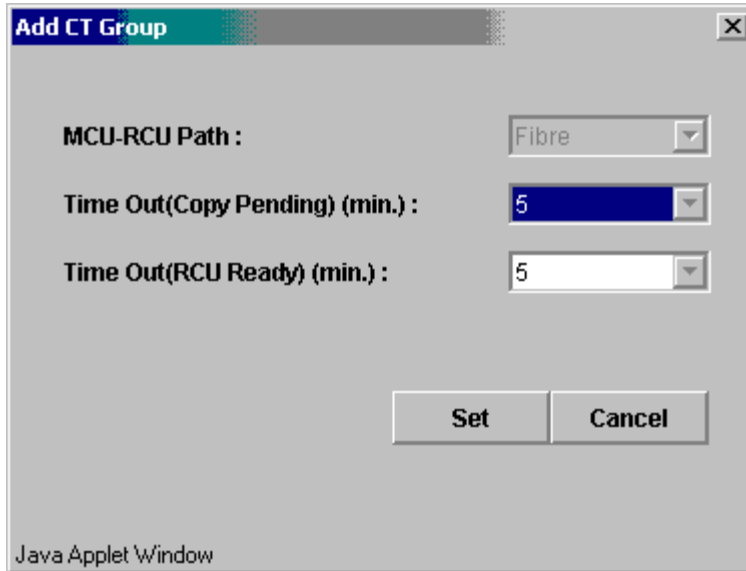

Figure 4.27 Add CT Group Panel
The Add CT Group panel (see Figure 4.27) allows you to add consistency groups and select the options for the new groups. To open the Add CT Group panel, select the **Asynchronous Operations** tab, select **Display All** or **Not Used** in the outline view, select the group(s) to be added, right-click on the group(s), select **CT Group Operation**, and select **Add CT Group**.
4. Right-click on the selected group(s), select **CT Group Operation**, and then select **Add CT Group** to open the Add CT Group panel (refer to Figure 4.27).